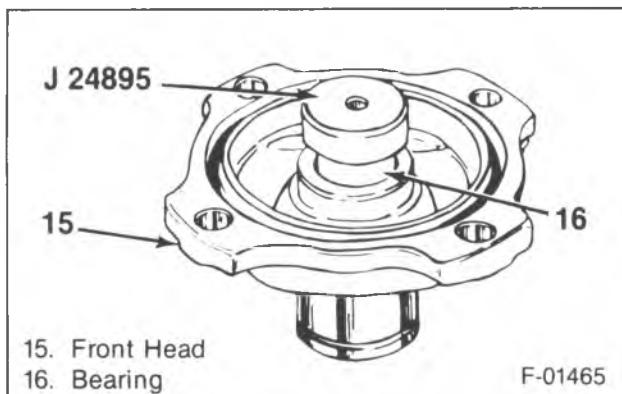

Figure 21—Installing the Bearing
1. Bearing (16) to the front head (15) (figure 21).
- Place the bearing with the neck down on a flat surface (figure 21).
2. Front head (15) and seal (17) to the compressor.
3. Rotor (5) and bearing (6) assembly.